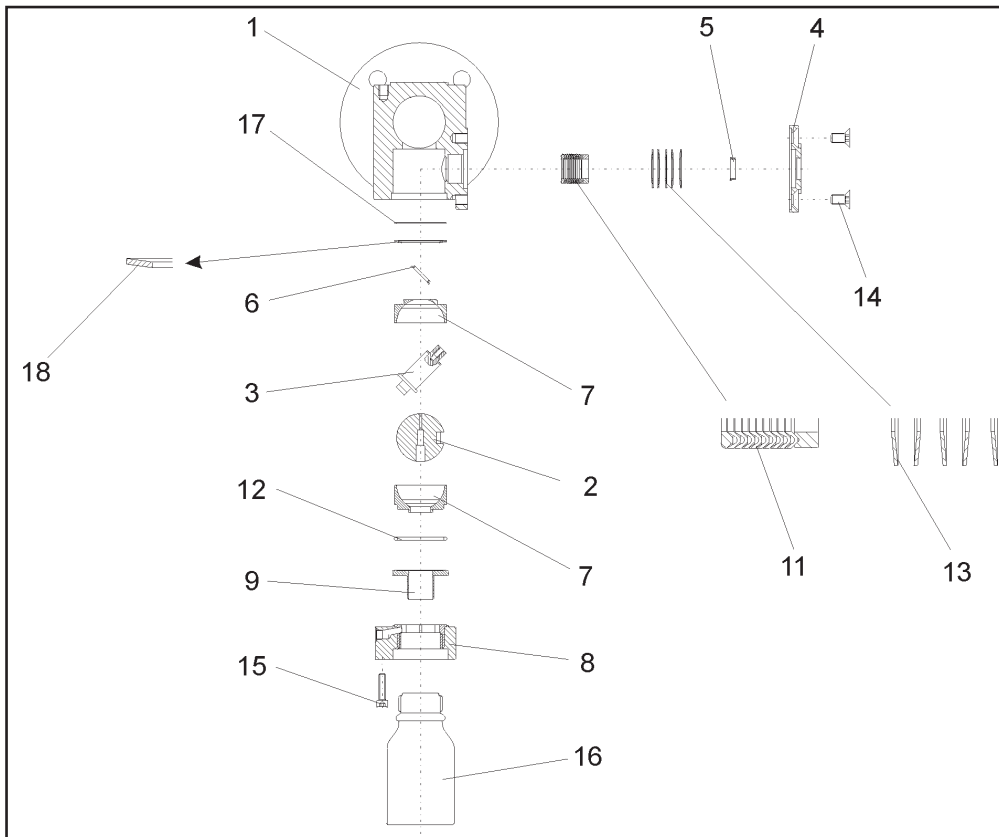

Fig. 3 - Exploded drawing of a sampling valve Series 27c
The sealing ring (17) and the spring washer (18) are inserted into the body. For the exact positioning of the spring washer, refer to the explosion drawing (Bild 3). The bearing bush (6) is pressed into its intended
The PTFE -V-ring packing (11) is inserted in the body bore in the following order PTFE-bottom ring, PTFE-V-rings and steel V-ring. Following this, insert the spring washer (13). For exact positioning and locating of the V-ring packing and spring washers, refer to the explosion drawing (Bild 3) Apply grease to the countersunk screws (14) The stuffing box. (4) and the pre-assembled bearing sleeve (5) are mounted and aligned with the countersunk screws.